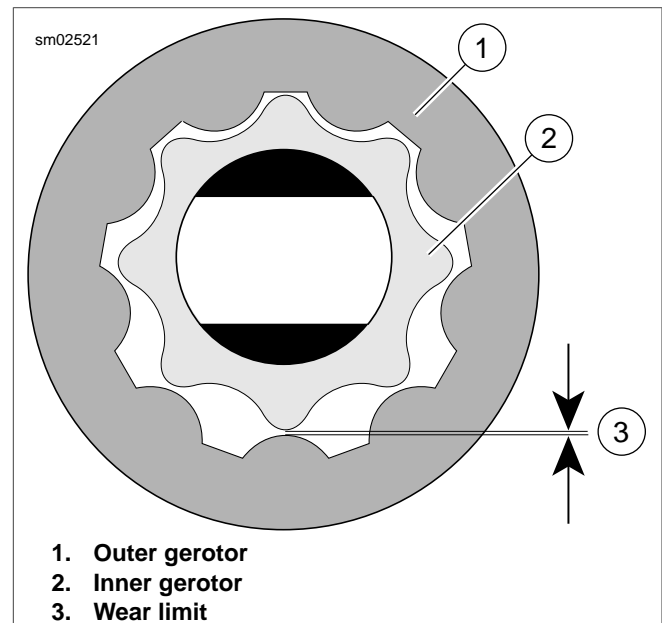

Figure 3-122. Measure Gerotor Sets for Wear
6. See Figure 3-122. Check gerotor wear.